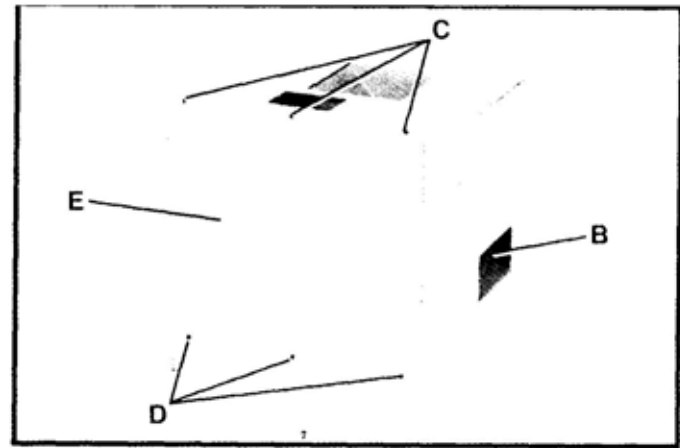

Fig. 5
1. The outfeed end of the jointer will be located at the side of the stand with the dust chute (B) Fig. 5.
2. Remove three screws (C) Fig. 5, and loosen three screws (D). Remove back panel (E) from stand by lifting panel upward.